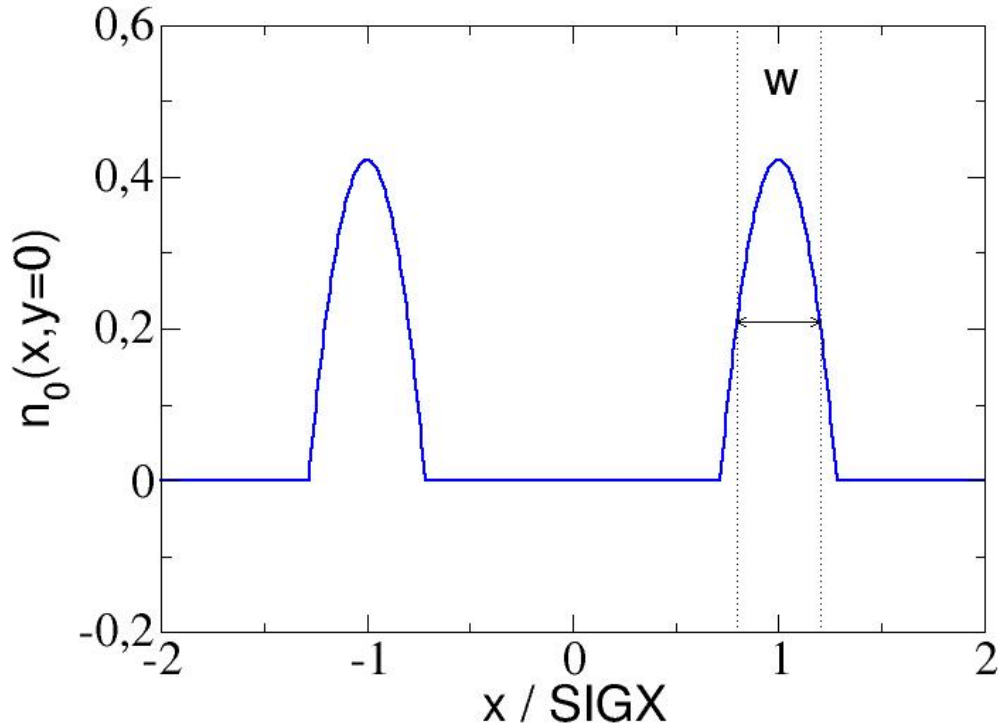

Figure 11.3: Hollow parabolic shape of radial density for beam-beam lens.
- **BBSHAPE=3**: hollow-parabolic shape (see fig.11.3). **SIGX**, **SIGY** are the distances from the centre to the maximum of the parabolic density profile